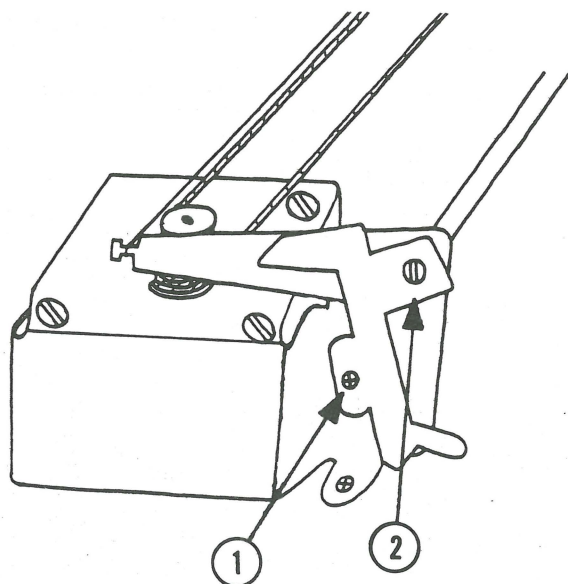

FIGURE 21
Remove the screw (Figure 21, #1) on the left end of the carrier guide shaft, and set aside the support brace.
9. Remove the screw (Figure 21, #2) on the left end of the guide shaft, and remove the ribbon wire arm.